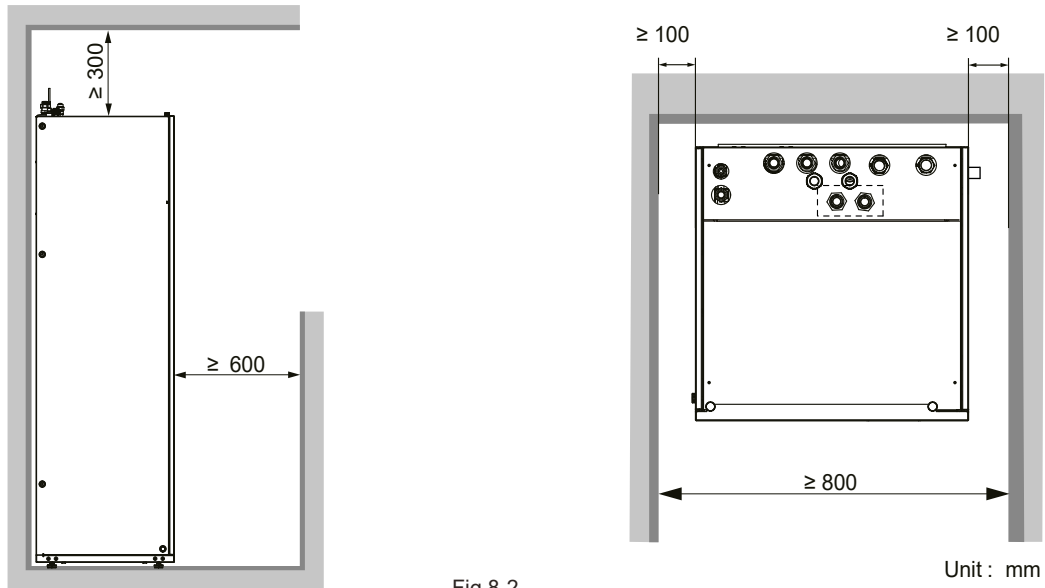

Fig.8-2
- The space around the unit is adequate for serving(Refer to Fig.8-2).